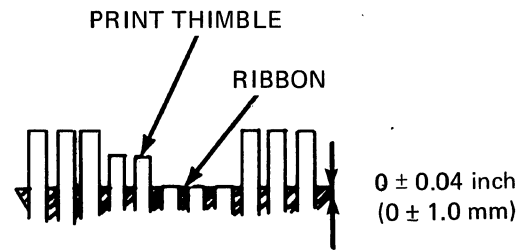

Figure 5-6 Characters Visible Position
- d. Verify that the gap between the ribbon top edge and the top of the short fingers of the print thimble is 0 inch \pm 0.04 inch (0 mm \pm 1.0 mm) (see Figure 5-6).